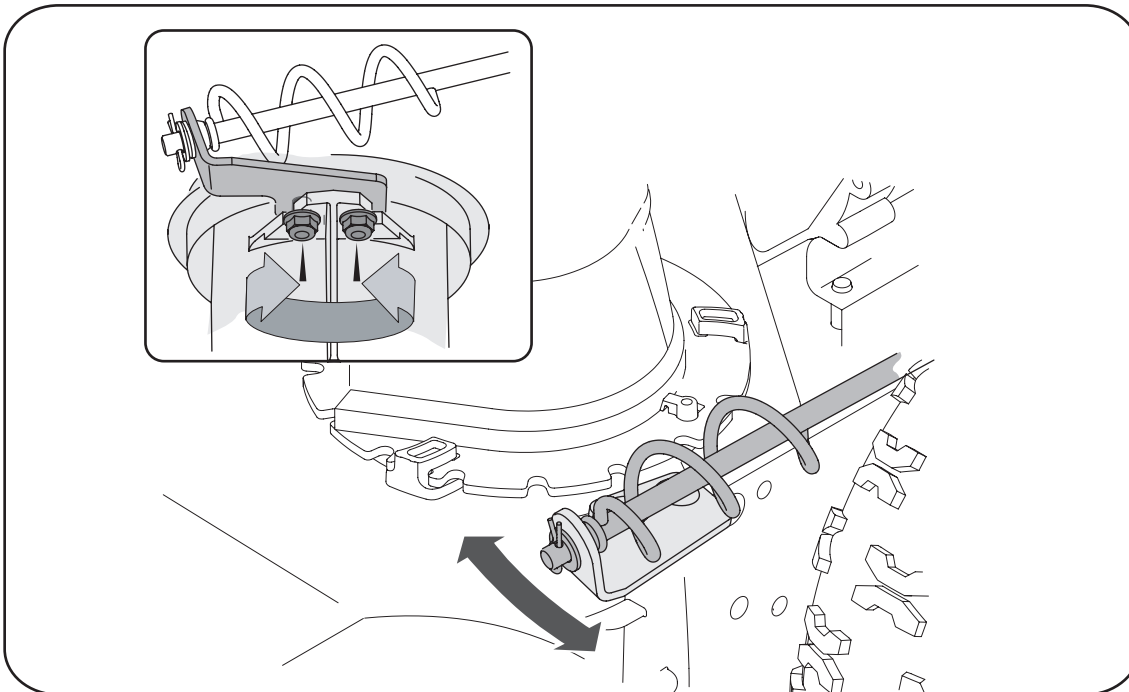

Figure 5-6
1. Loosen the two nuts which secure the chute bracket and reposition it slightly. See Figure 5-6.